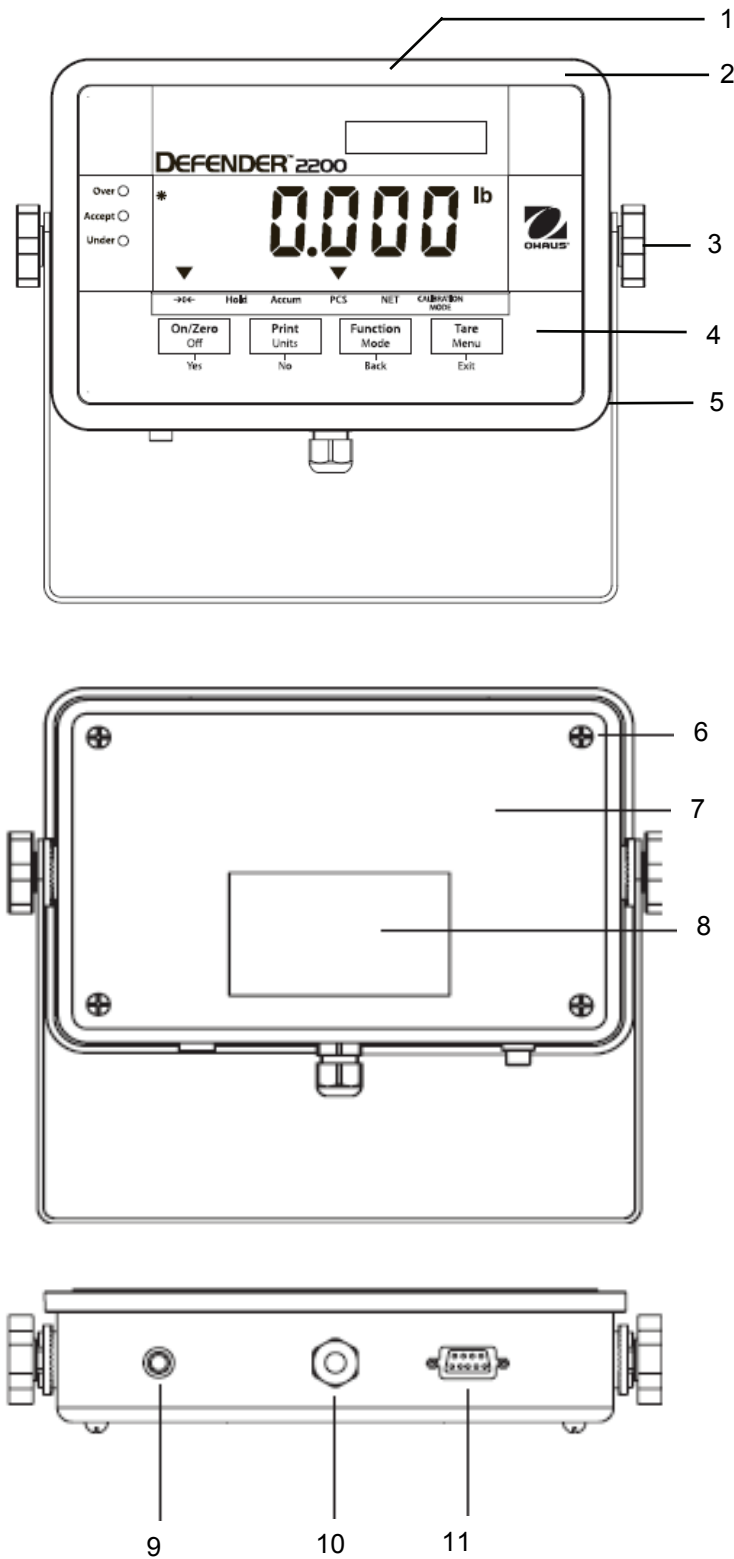

Figure 1-1. Defender 2200 Indicator
Connect the AC Adapter to the power receptacle (Figure 1-1, item 9), then plug the AC Adapter into an electrical outlet.